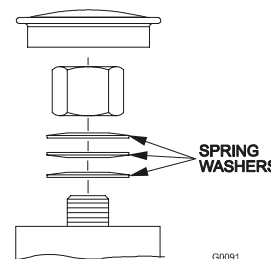

FIGURE 16
- a) Remove dust cap from caster and tighten nyloc nut until washers are flat and back off 1/4 of a turn to properly set the pre-load on the bearings. If disassembled, make sure the spring washers are reinstalled as shown in Figure 16.